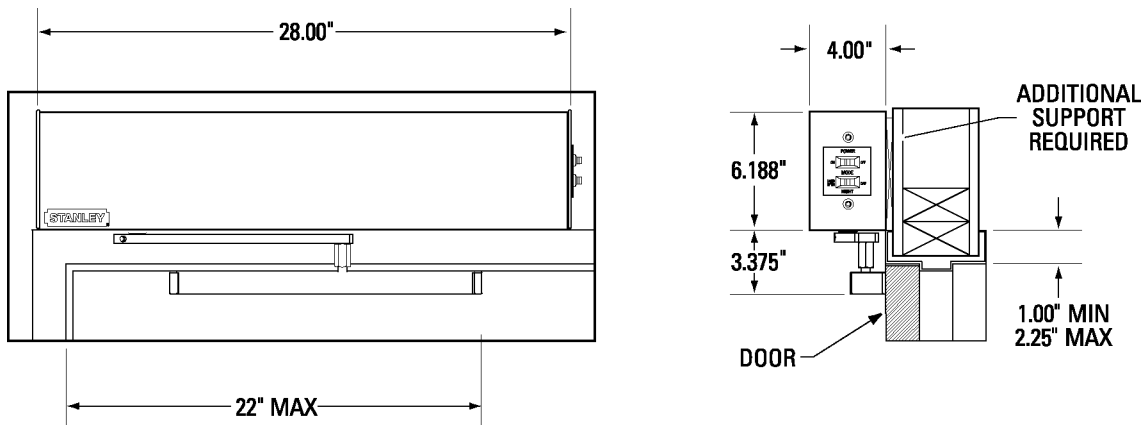

Fig. 6
1. Make sure that proper additional support is installed as shown in Fig. 6.